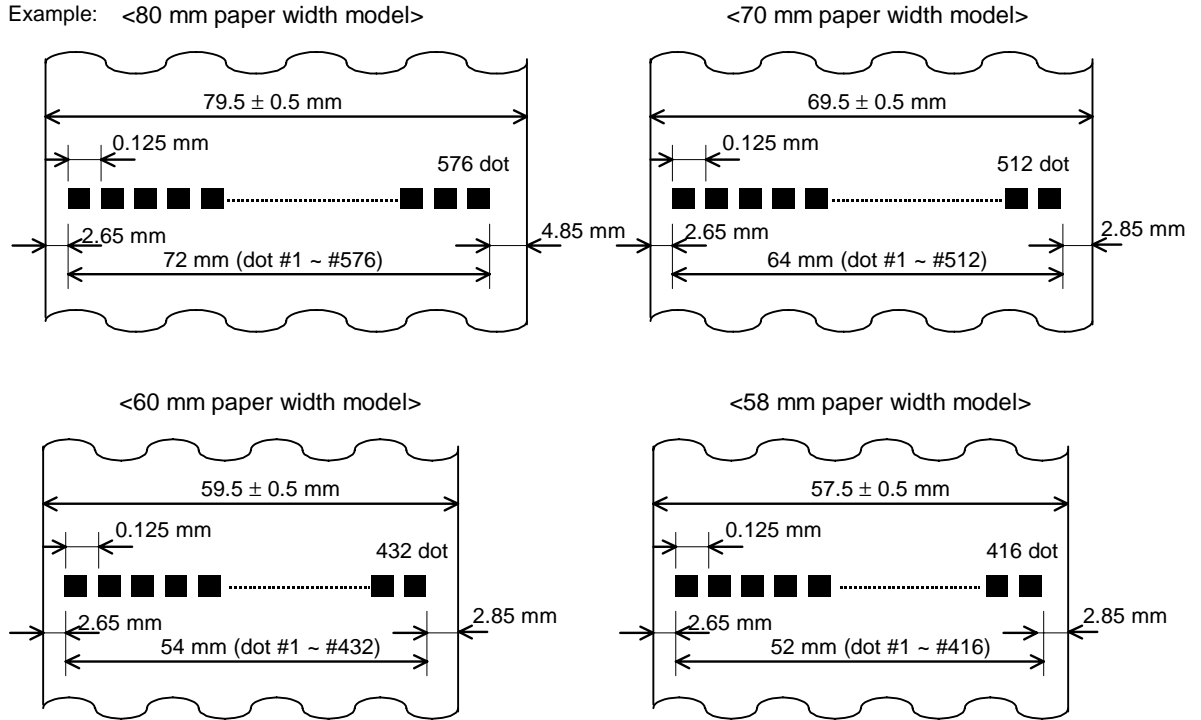

Figure 1.8.1 Printable Area (for Thermal Paper)
- The printable area may be out of alignment by 2 mm {0.08"} maximum (left or right), due to the paper position or tolerance of parts. Therefore, the print area must be set in the range of more than 2 mm from the edges of the paper. To make the margin for both sides safely, it is recommended to set a margin of 2.6 mm {0.1"} or more, as shown in Figure 1.8.1.